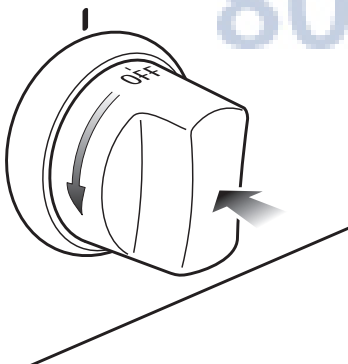

Fig. 2.2
- 1 – Push and turn the knob in an anti-clockwise direction up to the **★ HI** position (maximum rate), push in and hold the knob until the flame has been lit (fig. 2.2).